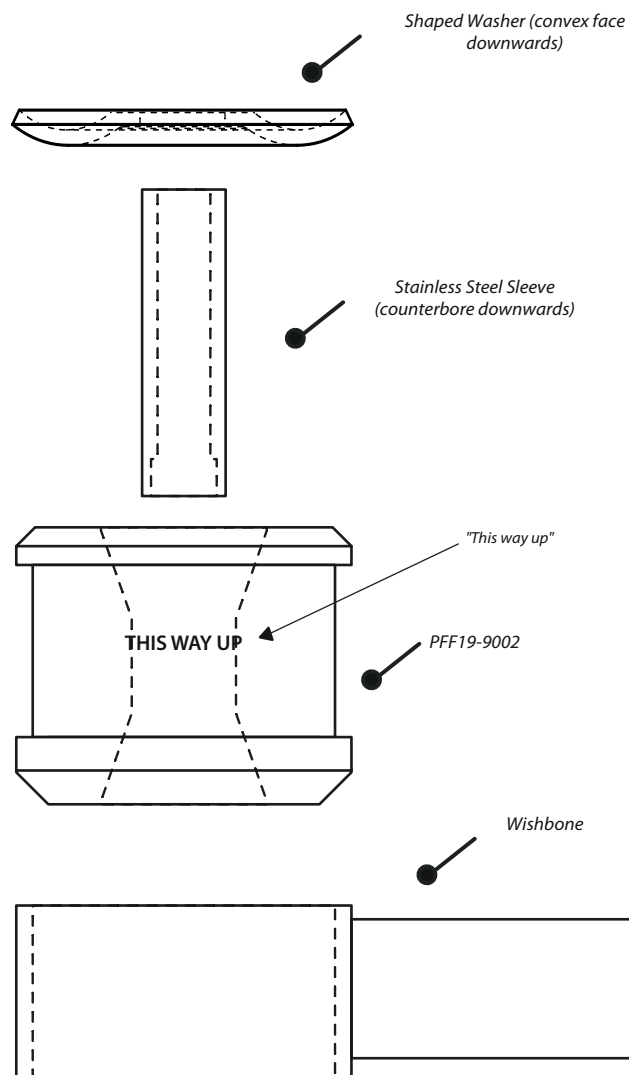

Figure 1
4. Using a small amount of dish soap as lubricant, press the polyurethane bush into the wishbone, making small lip is facing towards the top of the arm (follow guidance of engraving) (Figure 1).